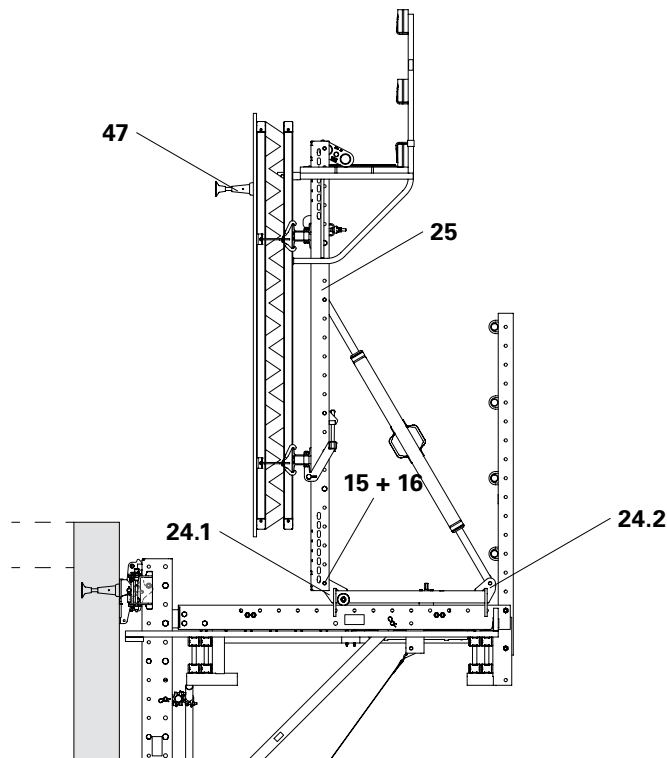

Fig. C3.05
7. Mount the Leading Anchor (**47**). (Fig. C3.05)